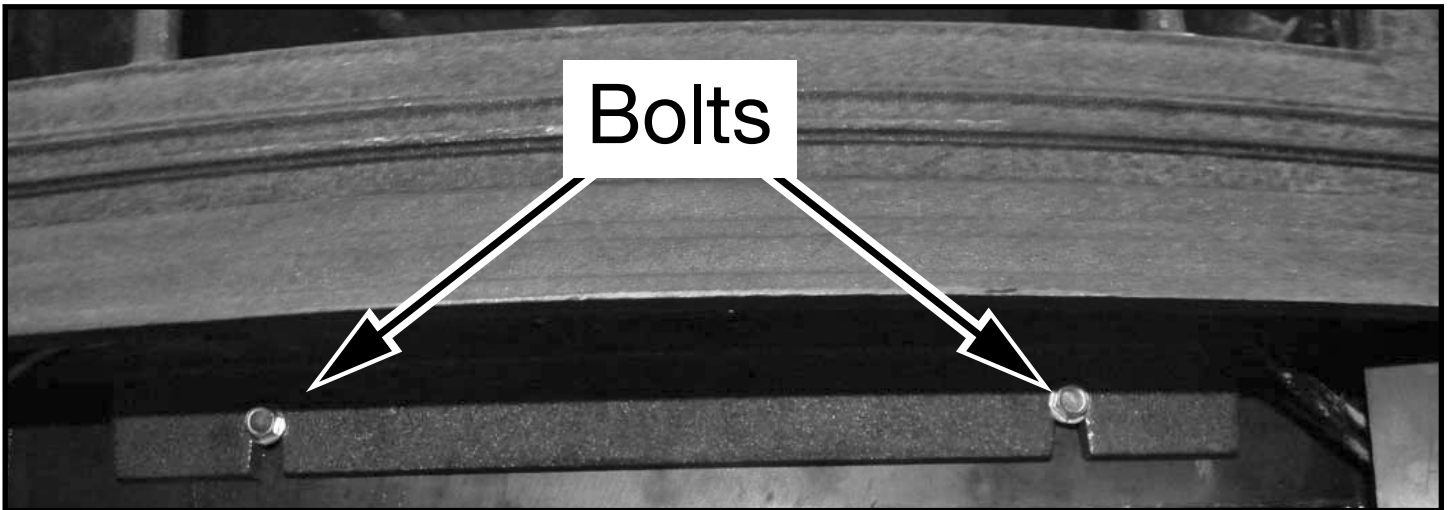

Figure 22: Bolts securing ash lip to firebox.
2. Loosen the two bolts that secure the ash lip to the firebox (Figure 22), carefully lift up the ash lip and remove from the firebox and unscrew the wire support tabs (Figure 23) noting how the wire are held in place.